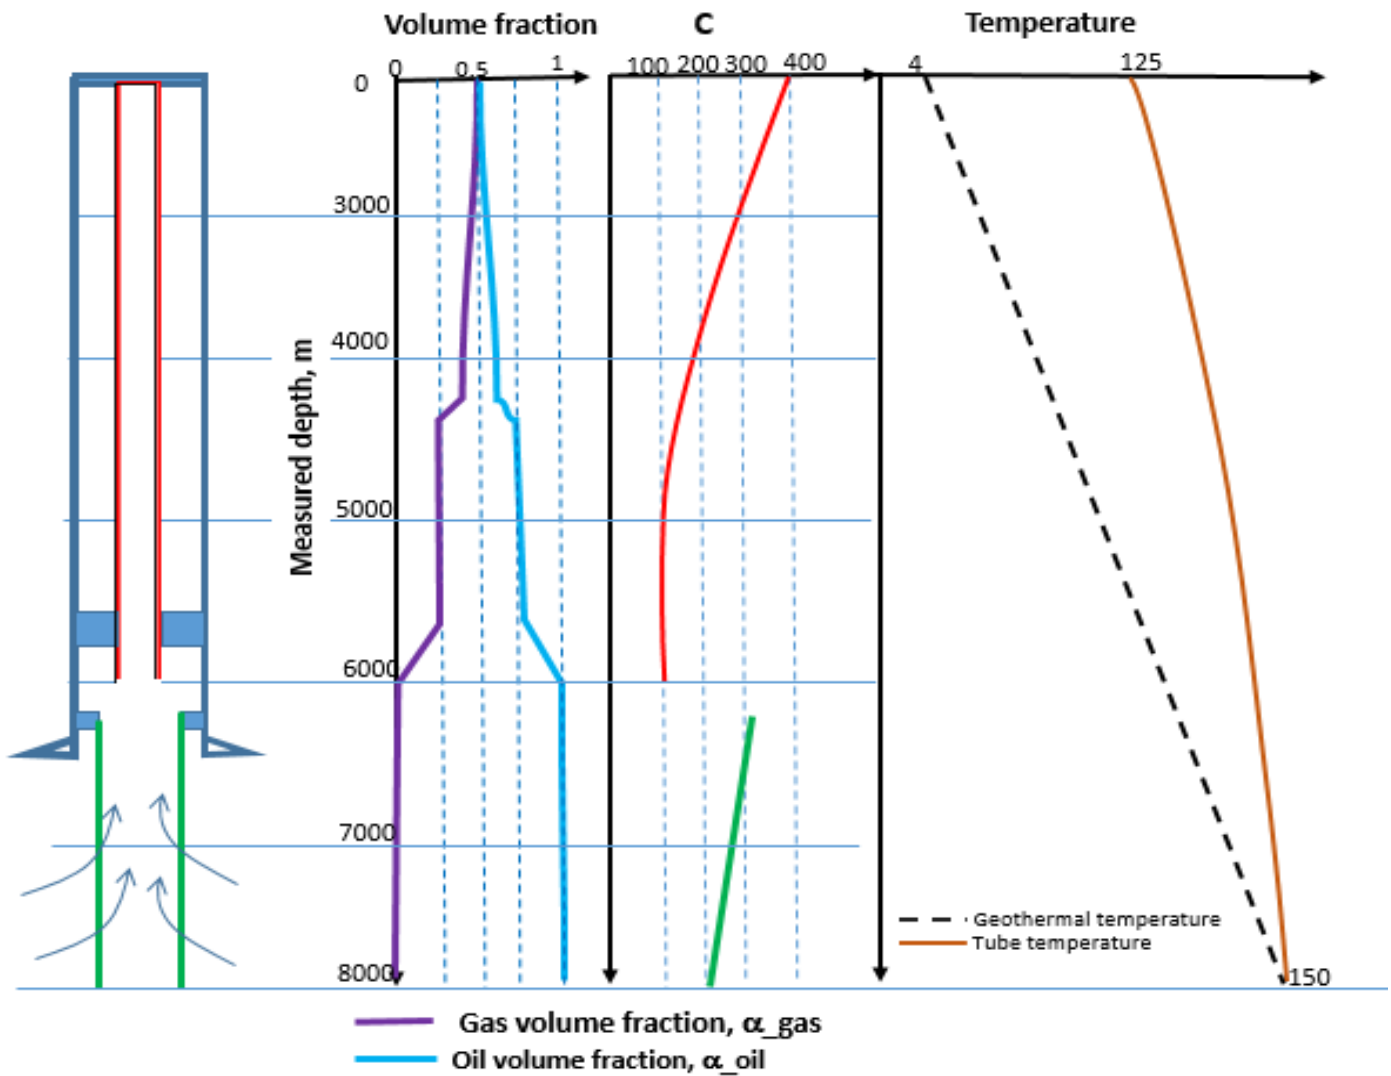

Figure 11: Multiphase flow and C-factor of tubular
- 2 Assume multiphase flow in a tubing with the volume fraction of gas and oil shown on **Figure 11**. In addition, the C-factor for the tubing and the liner are also shown along with the tubing temperature, which of course varies depending on the production rate and the shut in period.